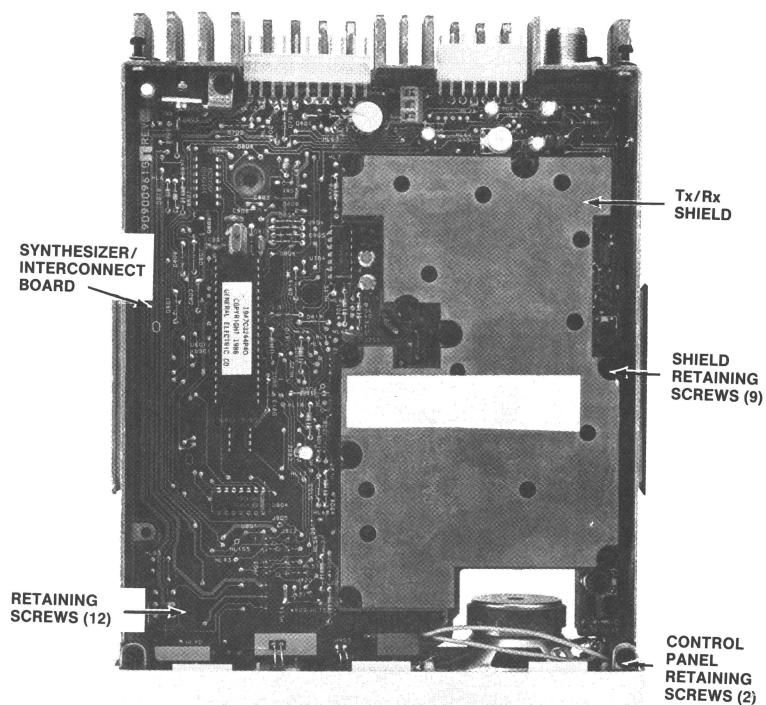

Figure 2 - Typical Synthesizer/Interconnect Board Removal
2. Remove the four screws in the front control panel, disconnect the speaker cable, and remove panel. See Figure 2.